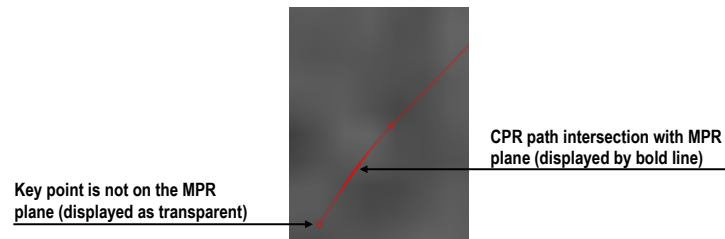

**Figure 303 – Path defining tools**
The CPR path is represented by a Bezier curve interpolating defined 3D points (key points). The number of key points is unlimited. Any changes performed to the CPR path are immediately reflected by CPR view. TomoCon provides two different modes for defining the CPR path key points (see Figure 303):
When adding a new or editing existing key point, it may be useful to move all orthogonal MPR planes to that key point to make following adjustments easier. To do so, check **Center orthogonal MPR** check box (see Figure 303).
1. Click  **Add path points** button (see Figure 303). The path is displayed in red.
1. Click  **Edit path points** button (see Figure 303). Path is displayed in green.
1. Click  **Edit path points** button (Figure 303). Path is displayed in green.